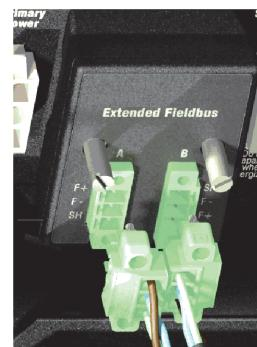

Figure 11. Extended Fieldbus Splitter/Terminator
- ▶ Fieldbus Splitter/Terminator (P0926LC) (see Figure 11) allows the FCP270 module(s) or FCM100E module(s) to connect to the remote Fieldbus used by the 100 Series Fieldbus Modules (Y-module FBMs) or Migration products.